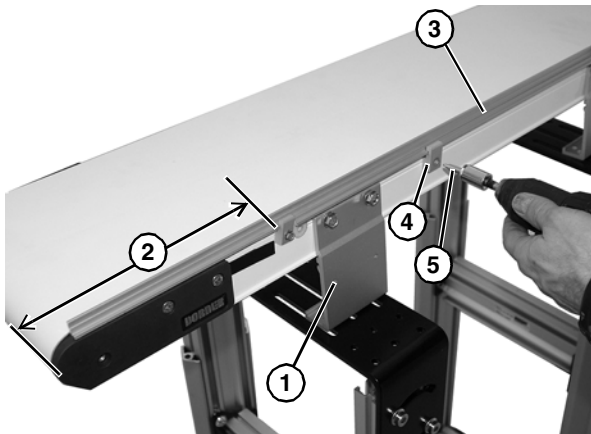

Figure 22
1. Lay out retaining clip (**Figure 22, item 1**) locations. The end clips should be no greater than 12" (**Figure 22, item 2**) from end of the conveyor.
2. Hold guide (**Figure 22, item 3**) and retaining clips (**Figure 22, item 4**) to conveyor side rail. Install self-drilling screws (**Figure 22, item 5**) following the "Proper Methods of Attachment to Side Rails (2300 Series Only)" on page 10 procedure.